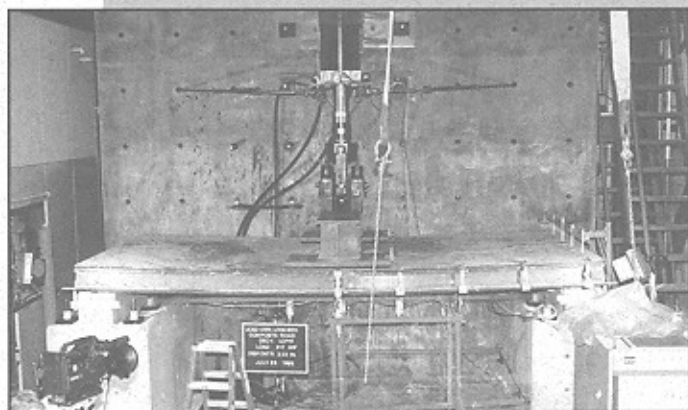

Figure 2. Testing of Innovative FRP Bridge Deck
- FRP replacement bridge decks (Figure 2)